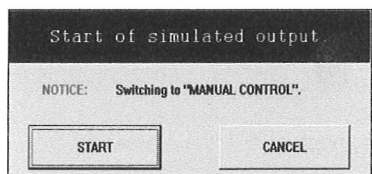

Fig.50
- ② On seeing a message box like the one in Fig. 50, click on "START" if you want to work with the analog output.